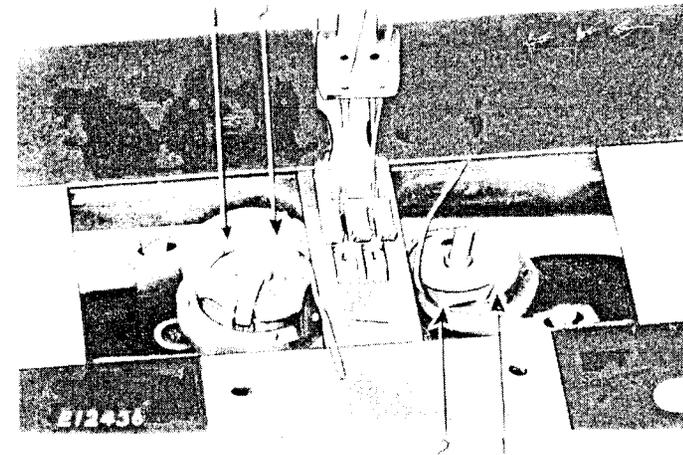

Fig. 9. Threading the Bobbin Cases
Hold the bobbin between the thumb and forefinger of the right hand, the thread drawing on the bottom from left to right, and place it on the center stud of the bobbin case, then push down the latch as shown in Fig. 9. Draw the thread into the slot (1) in the edge of the bobbin case and back of the projection (2), leaving a loose end of thread about two inches long above the slide. When closing the slides, leave just enough space for the threads to pass through.